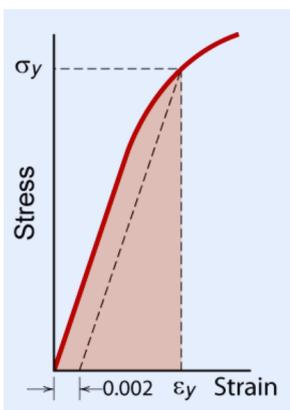

Figure 3.14 : Energy of elasticity shown under the curve of the stress-strain curve.
- That area has been highlighted in **Figure 3.14**, which is the area under the curve from the origin to the yield strength.